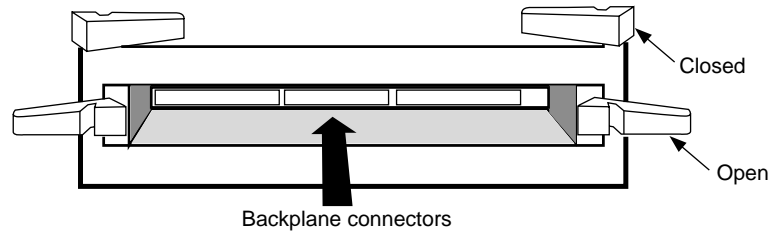

Figure 2-3 View of Open and Closed I/O Slot Ejector Handles
- a Make sure the slot ejector handles are in an open position, as shown in Figure 2-3.
Figure 2-3 shows ejector handles in open and closed positions.